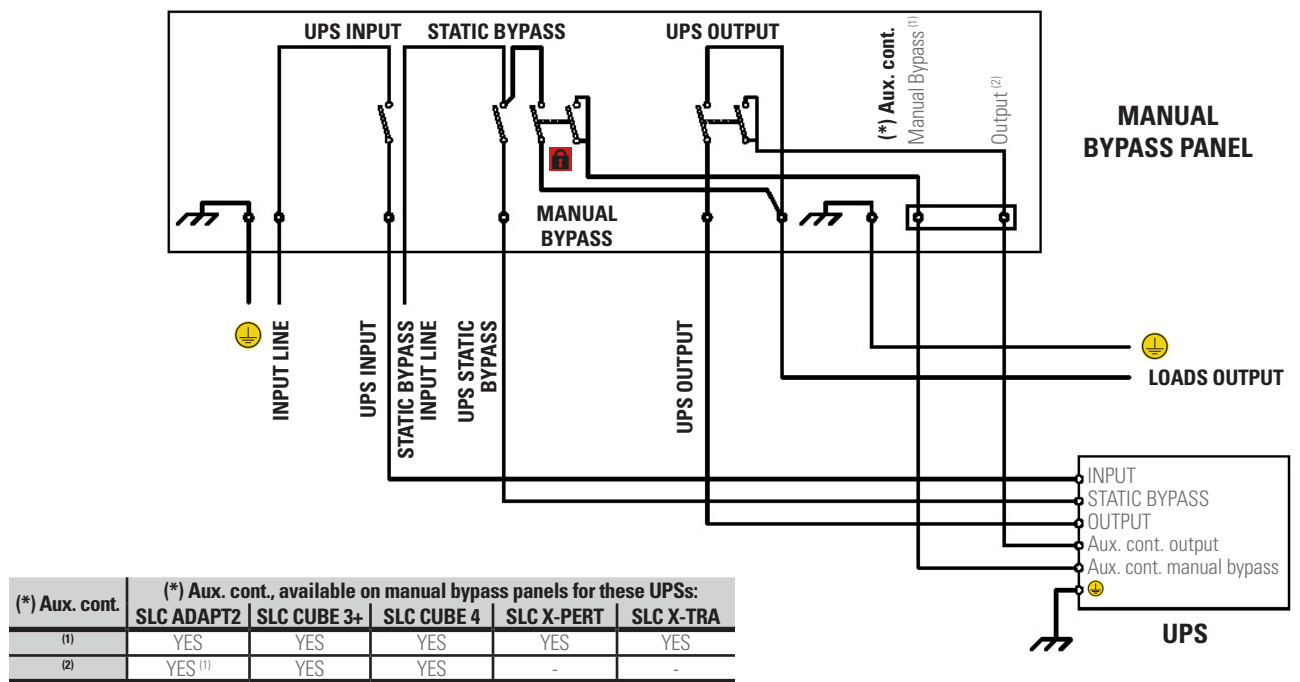

Fig. 4. Generic manual bypass panel for a UPS with a separate bypass line.
- ☐ Generic manual bypass panel for a UPS with a separate bypass line (Fig. 4).